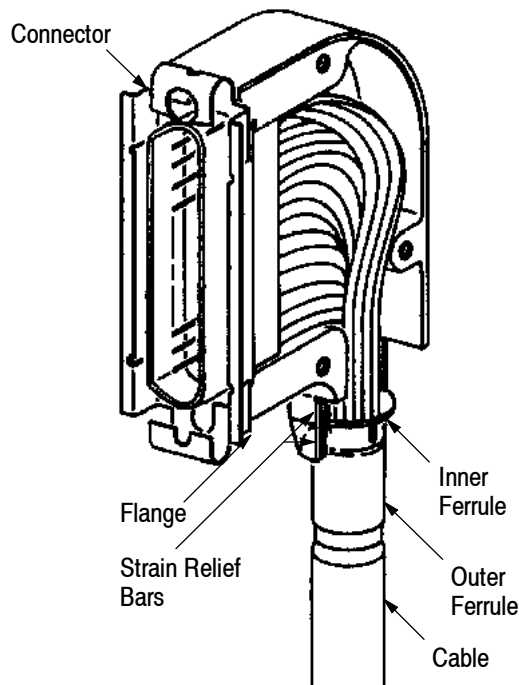

Figure 7
9. Position one half of the cable clamp on the cable and connector. Ensure that the flange of the connector is behind the flange edge of the clamp and that the inner ferrule is positioned between the two strain-relief bars of the clamp. See Figure 7.